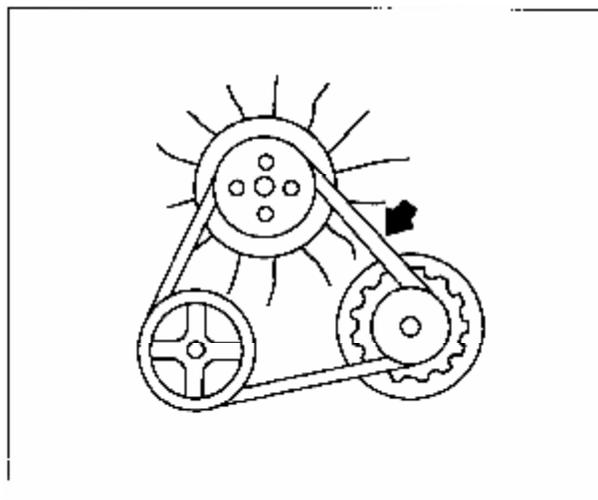

Figure 3-51 Check and Adjust Fan Belt Tension
(3) Check and adjust fan belt tension (see Figure 3-51): Use a force of 98N to press the belt at middle spot between alternator and water pump. If the deflection is 7~8mm (for a new belt 5-7mm), belt tension is nominal; otherwise adjust it.